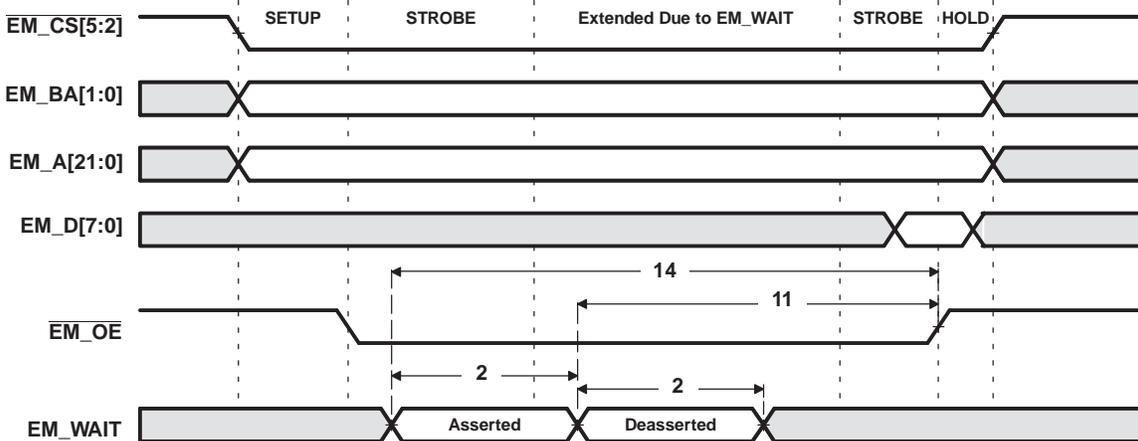
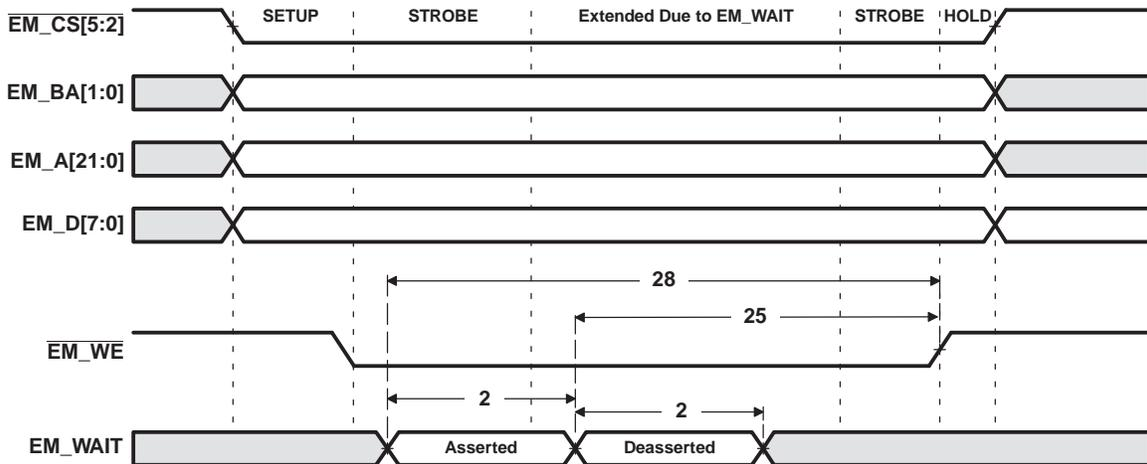

Figure 6-16. EM_WAIT Read Timing Requirements
Figure 6-17. EM_WAIT Write Timing Requirements
- (1) E = SYSCLK3 period in ns for EMIFA. For example, when running the DSP CPU at 600 MHz, use E = 10 ns.
- (2) Setup before end of STROBE phase (if no extended wait states are inserted) by which EM_WAIT must be asserted to add extended wait states. Figure 6-16 and Figure 6-17 describe EMIF transactions that include extended wait states inserted during the STROBE phase. However, cycles inserted as part of this extended wait period should not be counted; the 4E requirement is to the start of where the HOLD phase would begin if there were no extended wait cycles.